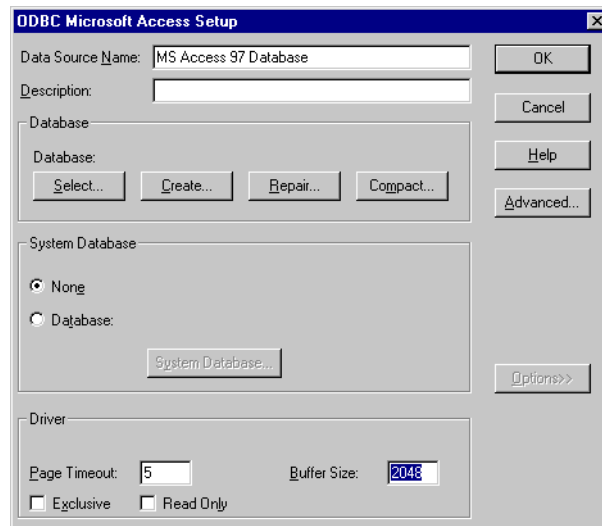

Figure 60. ODBC Setup display
- Double-click **MS Access 97 Database**. From the ODBC Microsoft Access Setup display, select **Options**. Update the **Buffer Size** field as displayed in Figure 60. Click **OK**.